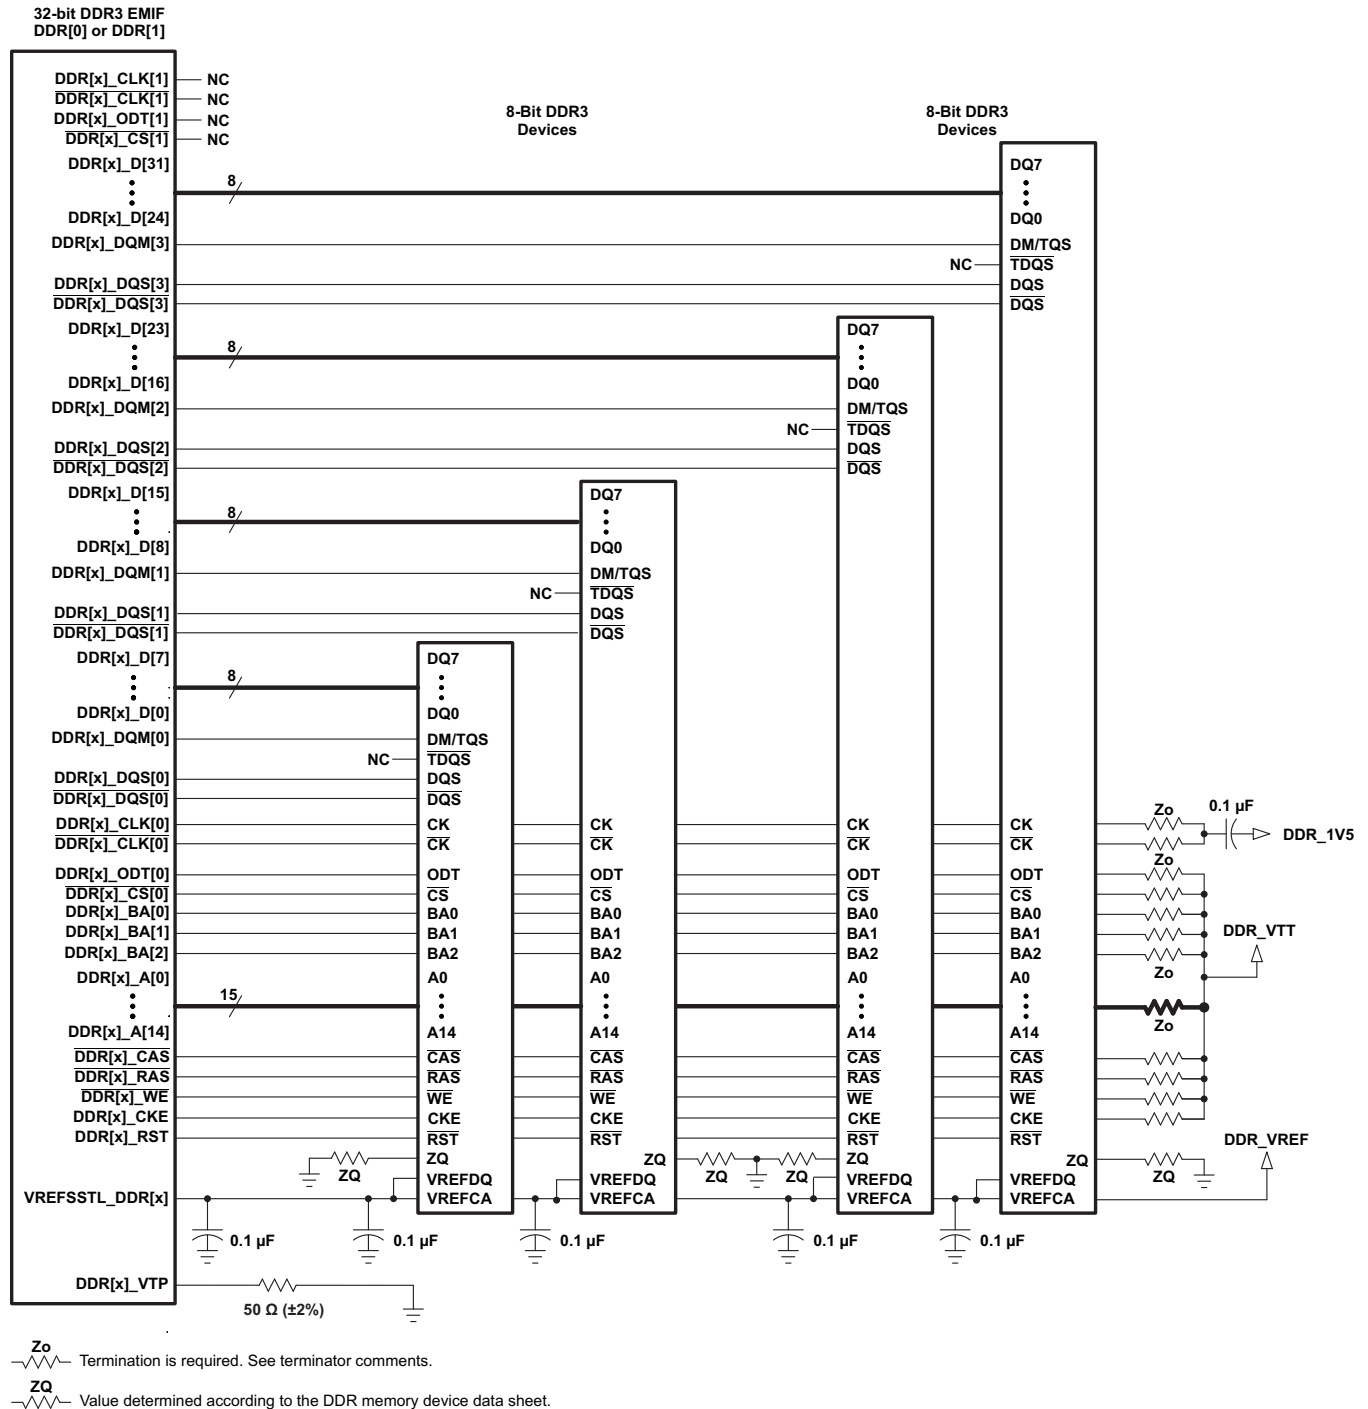

Figure 8-14. 32-Bit, One-Bank DDR3 Interface Schematic Using Four 8-Bit DDR3 Devices
The DDR3 interface schematic varies, depending upon the width of the DDR3 devices used and the width of the bus used (16 or 32 bits). General connectivity is straightforward and very similar. 16-bit DDR devices look like two 8-bit devices. Figure 8-13 and Figure 8-14 show the schematic connections for 32-bit interfaces using x16 devices.
Note that the 16-bit wide interface schematic is practically identical to the 32-bit interface (see Figure 8-13 and Figure 8-14); only the high-word DDR memories are removed and the unused DQS inputs are tied off. The processor DDR[x]_DQS[2] and DDR[x]_DQS[3] pins should be pulled to the DDR supply via 1-k Ω resistors. Similarly, the DDR[x]_DQS[2] and DDR[x]_DQS[3] pins should be pulled to ground via 1-k Ω resistors.
(1) DDR3 speed grade depends on desired clock rate. Data rate is 2x the clock rate. For DDR3-1600, the clock rate is 800 MHz.
(2) For valid DDR3 device configurations and device counts, see Section 8.3.2.3, Figure 8-13, and Figure 8-14.